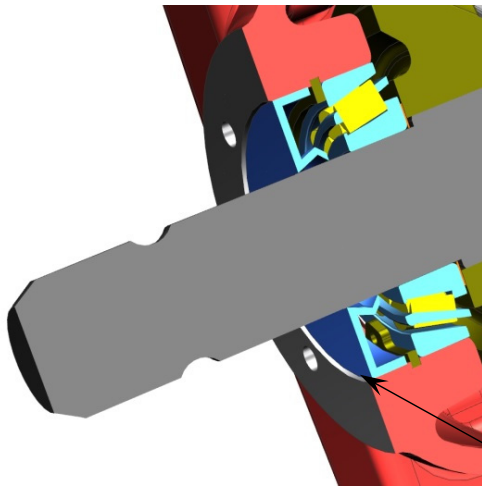
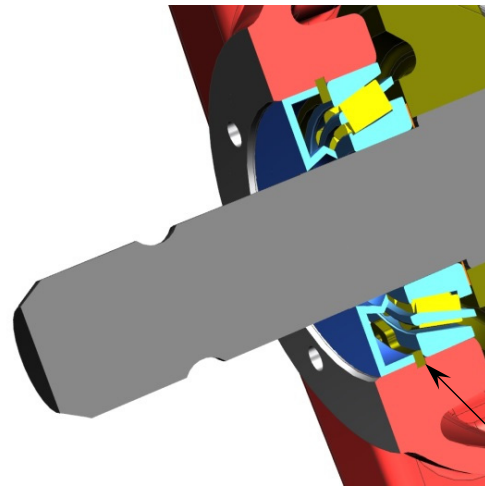

Fig. 2
Fig. 3
- Oil seal must be assembled 1÷1.5 mm below housing external surface, as shown on fig. 2
- When is impossible assemble the oil seal as shown on fig. 2, align the oil seal surface against snap ring, paying attention to not preload the bearings preload fig. 3.